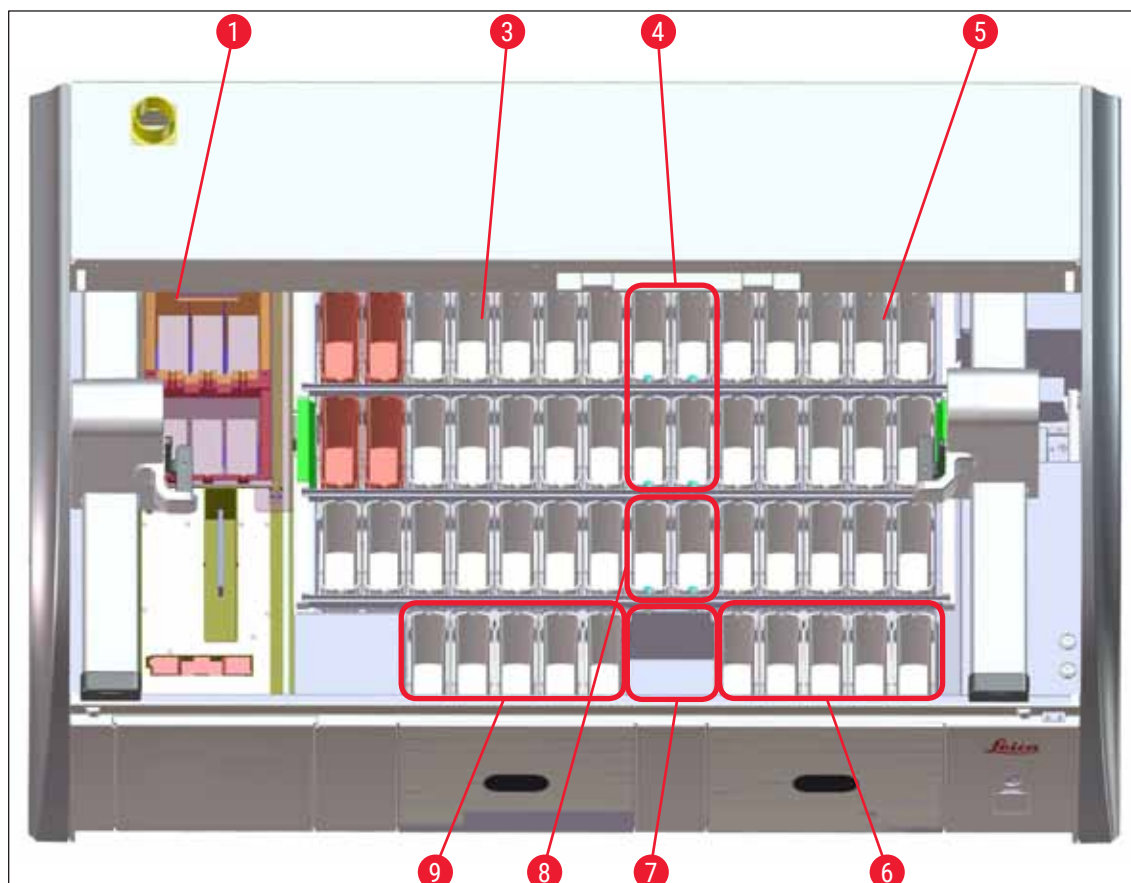

Fig. 64
- Duplicate stations have to be on the same side of the vessel field (→ "Fig. 39") (→ "Fig. 64"), otherwise the adjustment to the bathlayout cannot be saved.
- (→ "Fig. 64") shows an overview of the various stations in the vessel field.